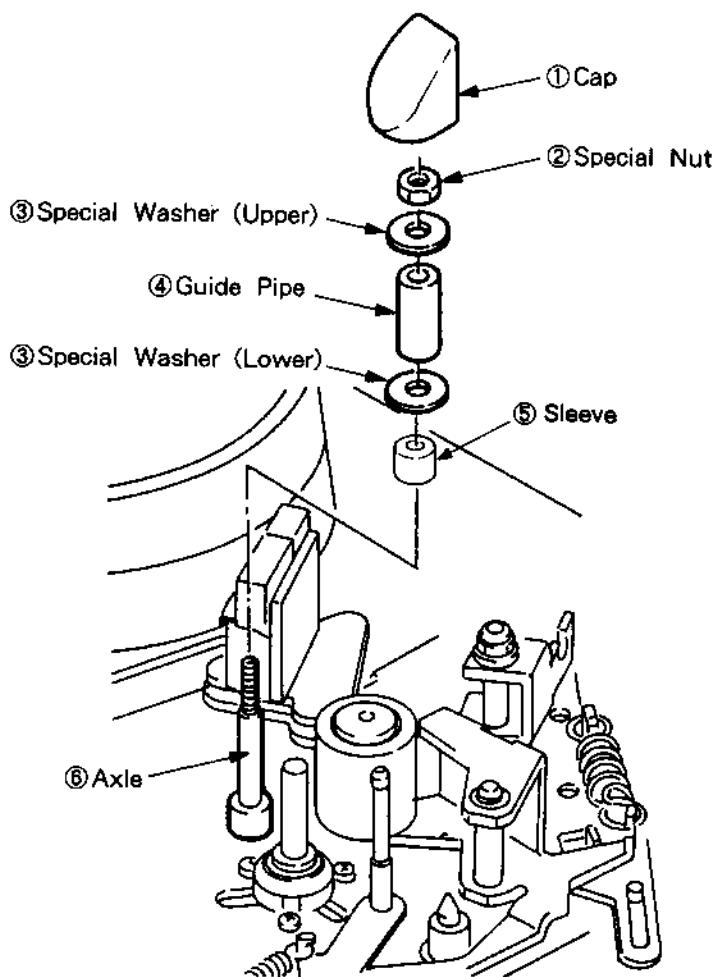

Fig. 2-10-3. Fixed Guide (T)
## 2-10-3. FIXED GUIDE (T) (See Fig. 2-10-3.)